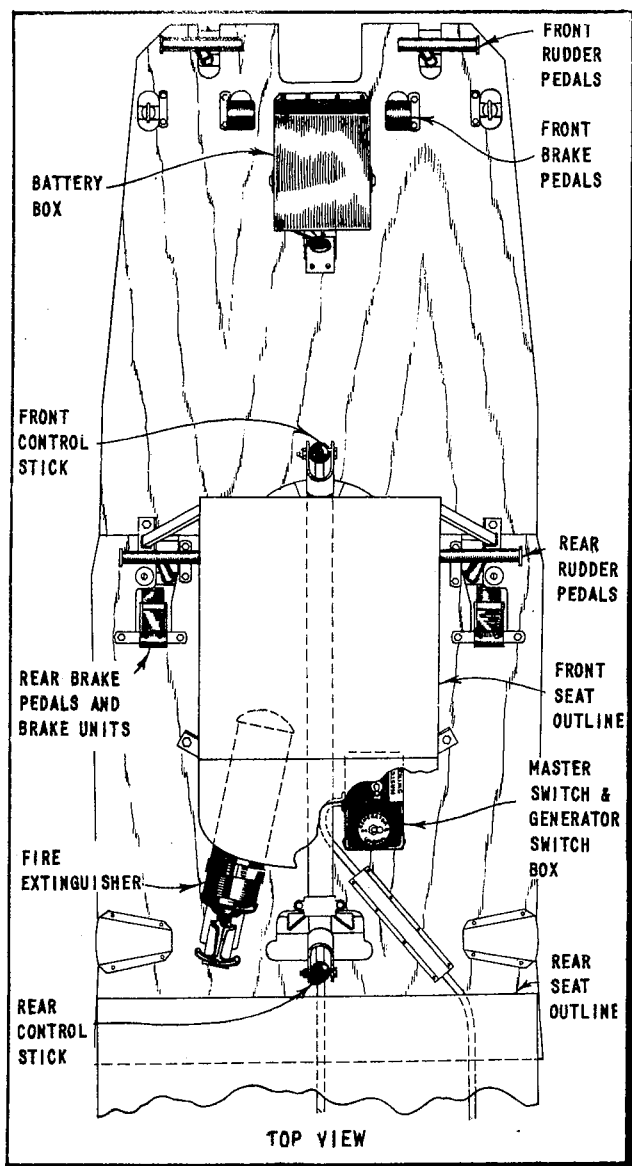

Figure 19—Cockpit Floor on the Model L-4A
b. FLOOR ARRANGEMENT. (See figures 19 and 20.)—Dual rudder pedals, dual brake pedals, with exceptions as noted below, the control stick assembly, and emergency equipment are identical on all models. On the model L-4A, the battery box is located in front of the front control stick and the master battery switch and generator switch box are located between the front and rear seats. The generator switch turns on the wind-driven generator. Stevens master cylinder brakes are used on this model.